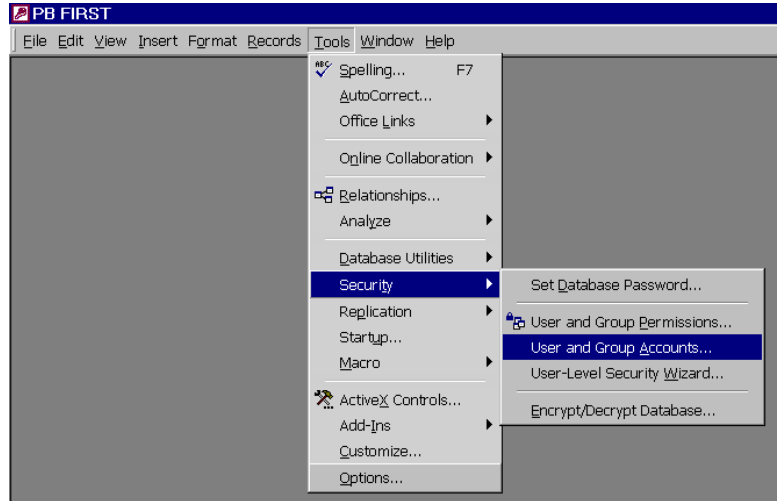

Figure 2-5
The PB FIRST main menu appears (Figure 2-5, page 2-6).
2. On the menu bar of the PB FIRST window in Access, click **Tools > Security > User and Group Accounts** (Figure 2-5).